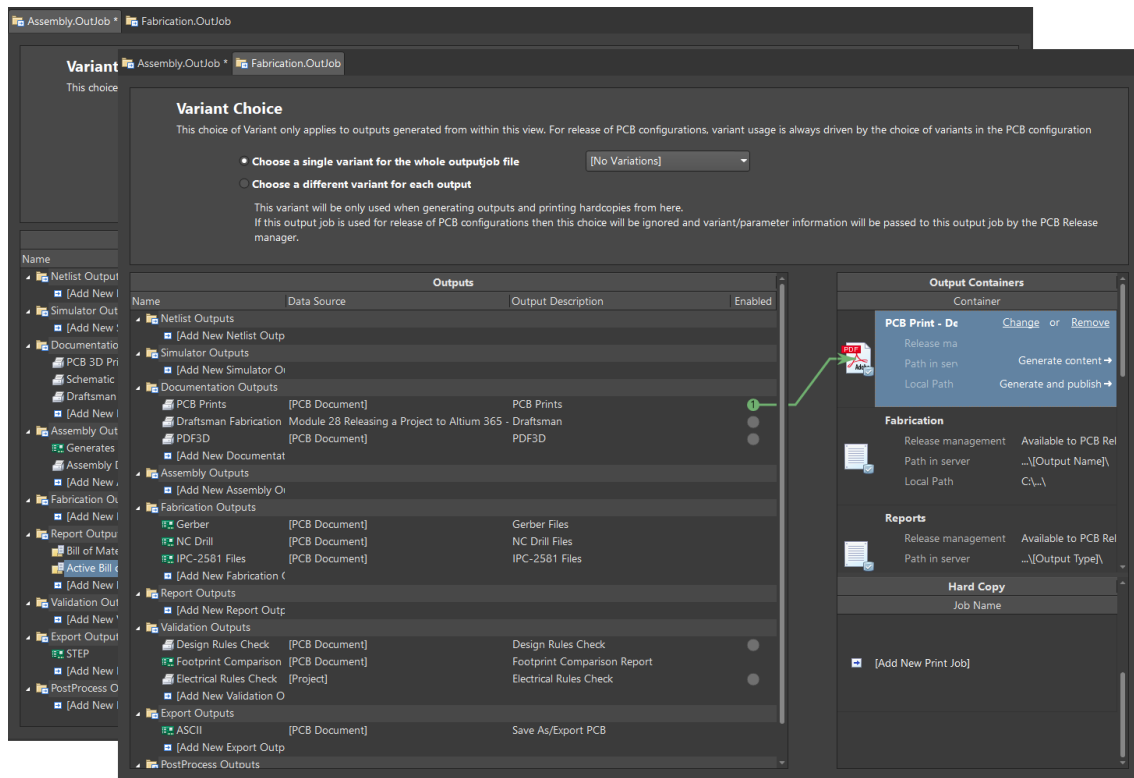

Figure 1. Out Job Configuration files
10. In the example Project there are two Out Job files. Open these files, the Output Job files should look similar to Figure 1.